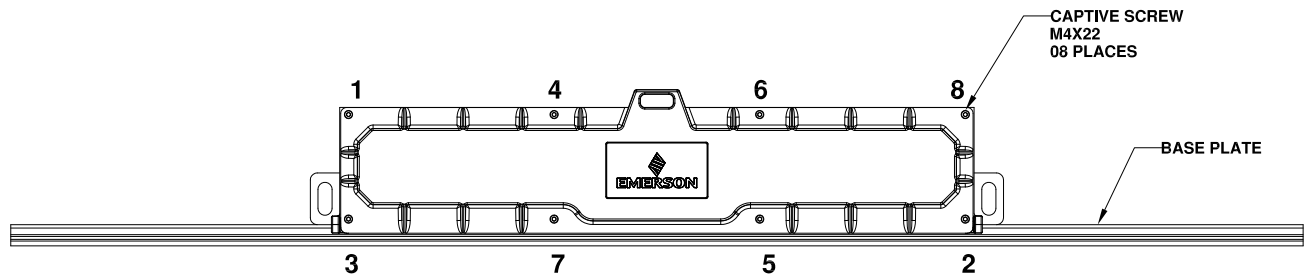

FIGURE 11: SCREW TIGHTENING SEQUENCE
F. Tighten the eight captive screws by applying a torque of 2.25 N.m (20 Lb.in) using the sequence shown as in Figure 11. Make sure wires do not pinch between cover and wiring compartment when closing.
7. Tighten the eight captive screws by applying a torque of 2.25 N.m (20 Lb.in) using the sequence shown as in Figure 11. Make sure wires do not pinch between cover and wiring compartment when closing.
5. Tighten the eight captive screws by applying a torque of 2.25 N.m (20 Lb.in) using the sequence shown as in Figure 11. Make sure wires do not pinch between cover and wiring compartment when closing.